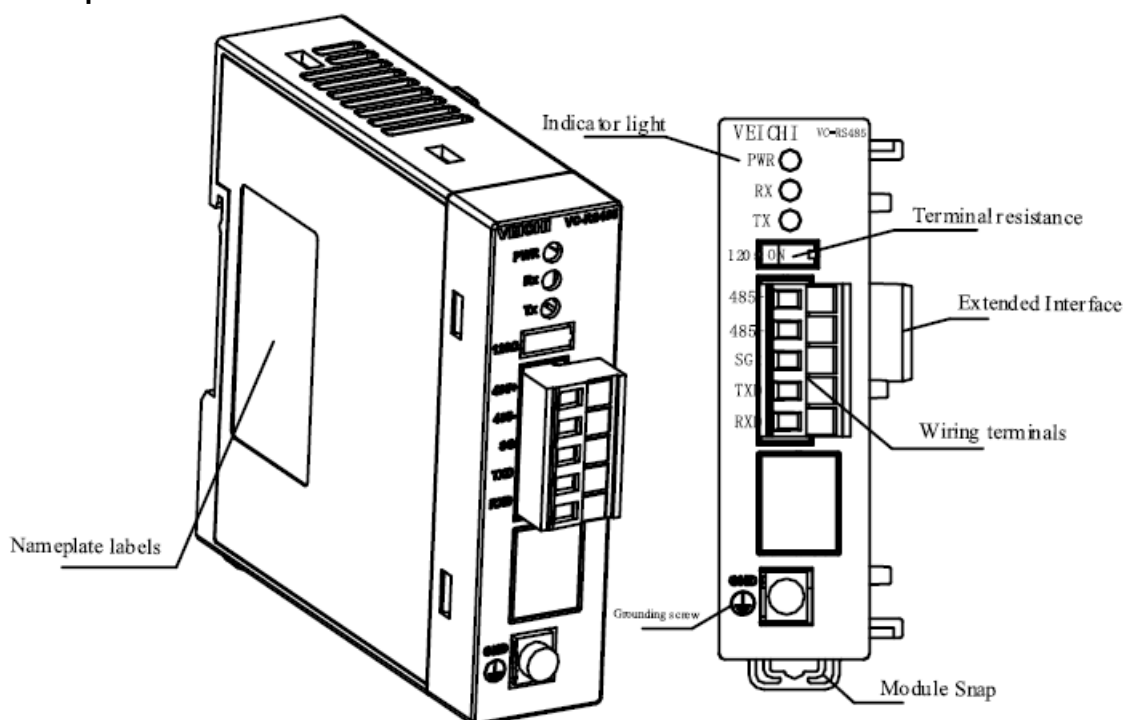

Figure 1-1 Appearance of the module interface
- Extension interface and user terminal for VC-RS485, appearance as shown in Figure 1-1